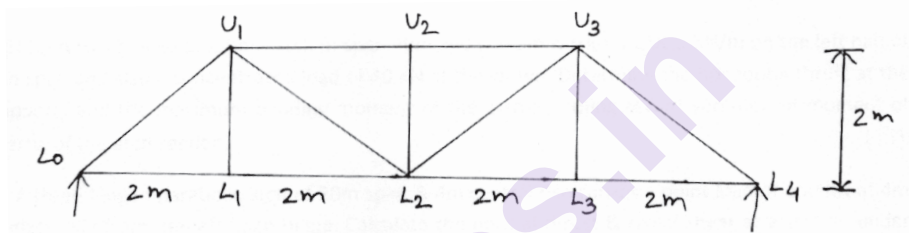

Fig. 4
- b)** Draw the influence line diagram for the member $U_1 U_2$, $L_1 L_2$, and $U_1 L_1$ of a truss as shown in fig. 4 [9]